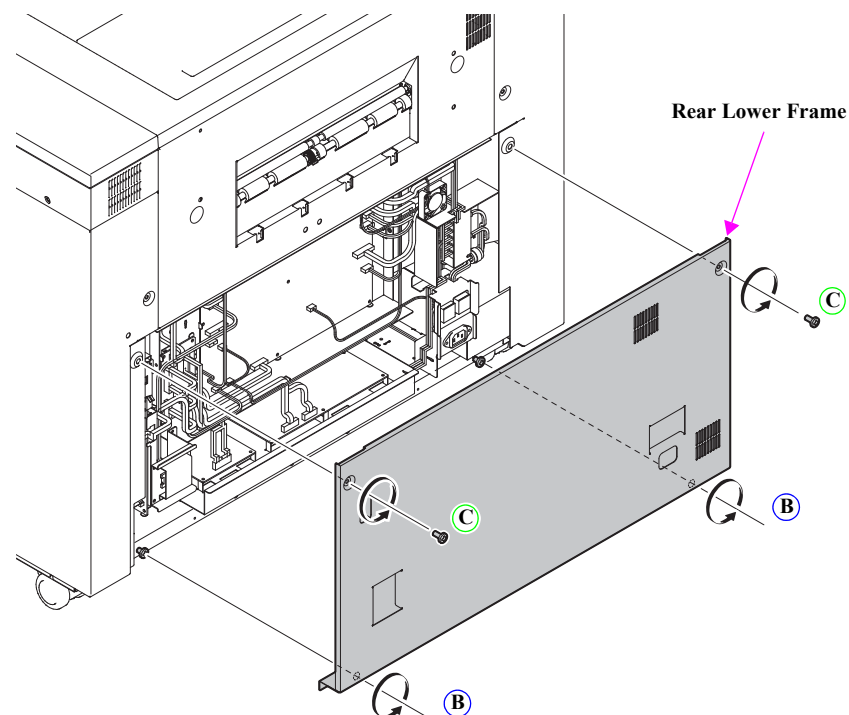

Figure 2-2. Installing the Long Paper Ejection Unit (2)
13. Install the Rear Lower Frame. (Figure. 2-2)